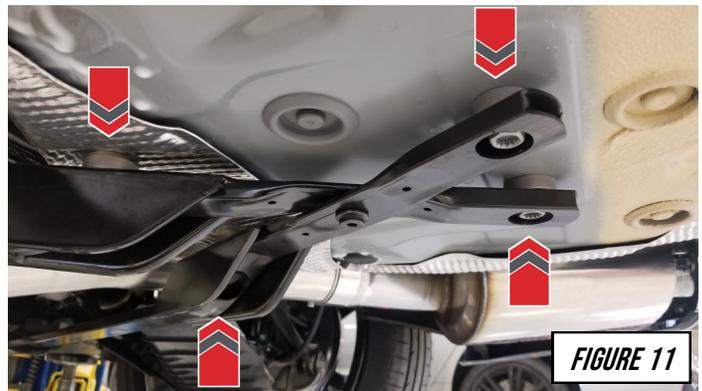

FIGURE 11
Reinstall the factory rear cross brace with the remaining brace spacers. There should be four (4) spacers installed in the rear most section (beneath the spare tire well), as seen in **Figure 11**.